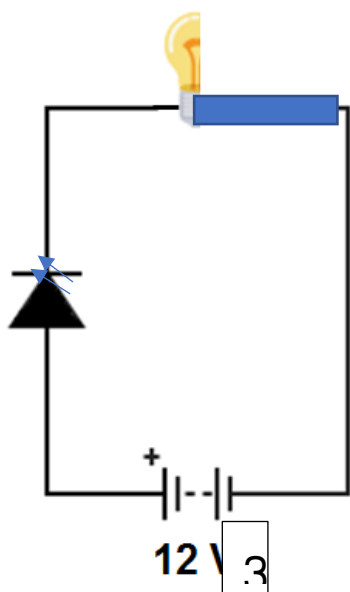

Figure 3
2. In Figure 3, the LED _____.